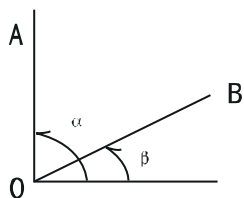

Fig.8
- (1)Sight A with vertical hair, read circle, get angle α .
- (2) Turn instrument to sight B, get angle β .
- (3) $\angle AOB=\alpha-\beta$ (Fig.8)